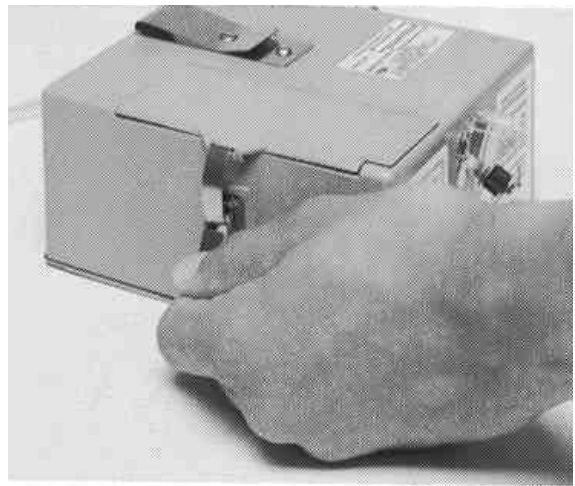

Figure I-5. Removing the battery cover
- Step 1.** Open the latch clip and remove the battery cover (fig. I-5).